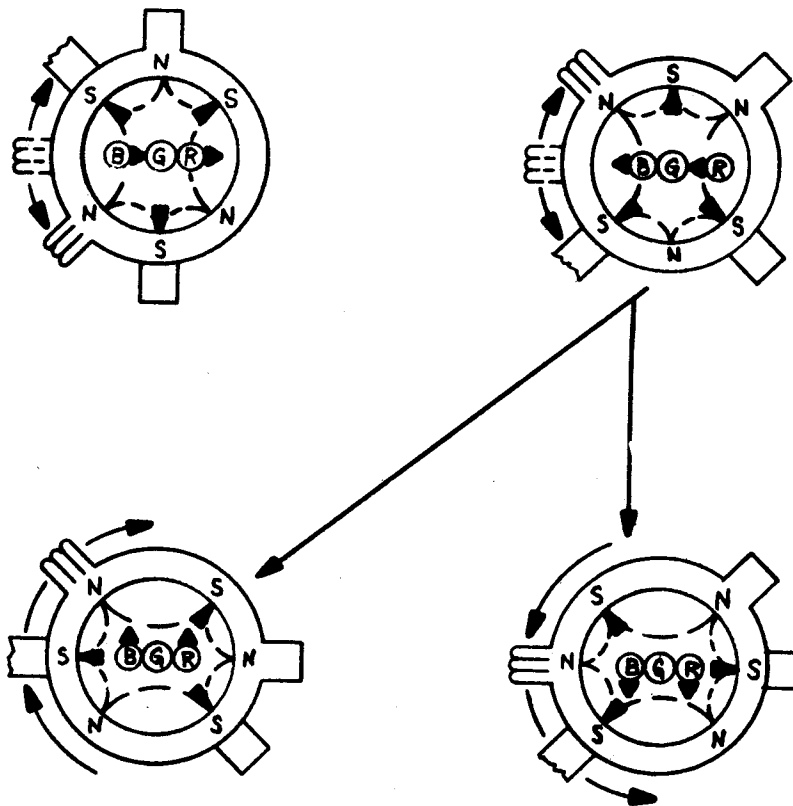

Figure 5-2, 6-Pole Convergence Magnets
3. A pair of 6-pole convergence magnets controls convergence of the magenta (red and blue) to green beams. When the pole is open to the left and right 30 degrees, symmetrically, the magnetic field is maximum. The red and blue beams move to the left and right (See Figure 5-2).